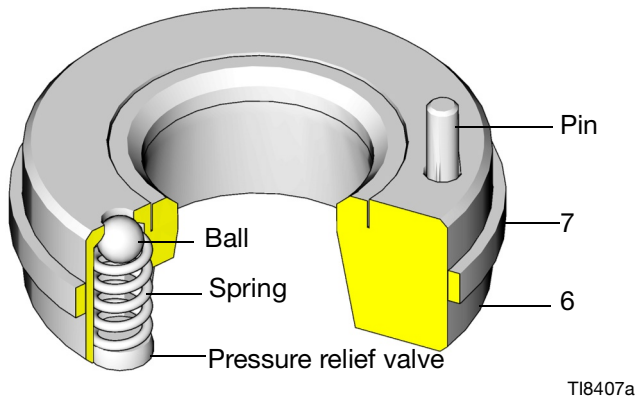

FIG. 2. Inlet Seat with Pressure Relief Valve
2. Use the **text cast into the inlet fluid housing (15)** as a guide to install the relief valve inlet seat (6H). The pin (See FIG. 2) on the seat must point into the inlet fluid housing (15). This pin limits the positioning of the seat (6H), ensuring that the vent hole is not blocked by part of the housing.
3. Install the inlet seat (33H) without a relief valve in the right side of the inlet fluid housing (15).